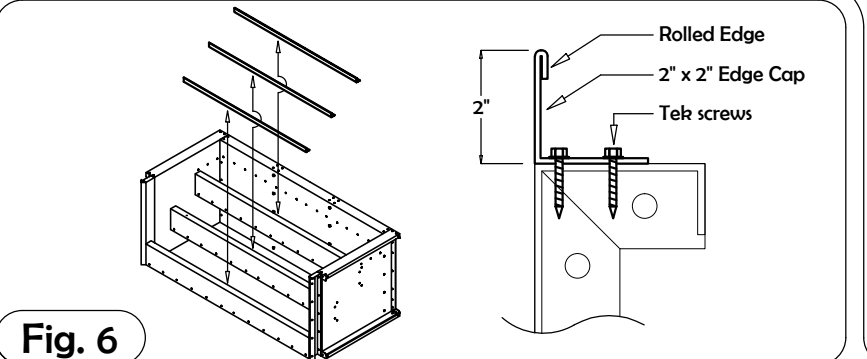

Fig. 6
6. Bolt the leveling plate to the bottom, rear edge of the left and right side panels (Fig 6).
6. Tek screw edge caps to the corresponding riser forms starting with the top step (Fig. 6).